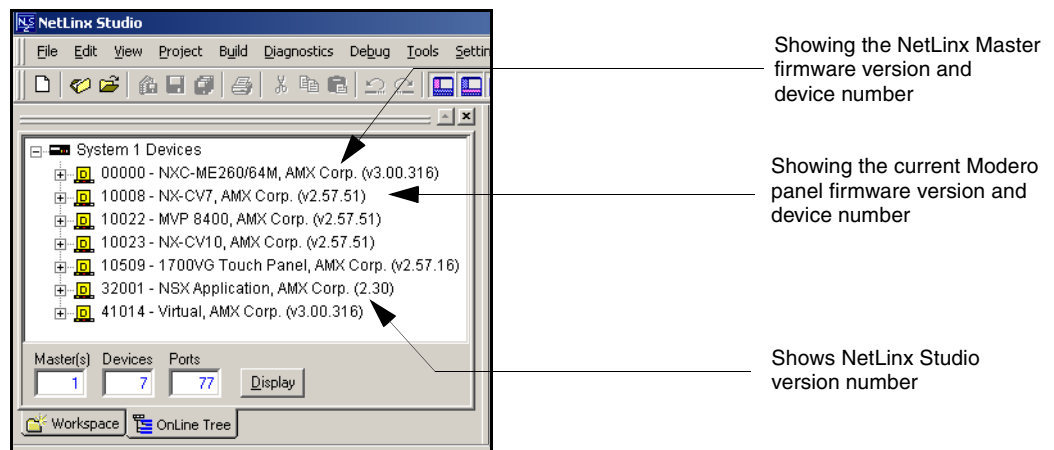

FIG. 51 NetLinx Workspace window (showing connected Modero panel)
- After the Communication Verification dialog window verifies active communication between the PC and the Master, verify the panel appears in the **OnLine Tree** tab of the Workspace window (FIG. 51). *The default Modero panel value is 10001.*